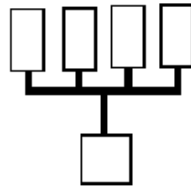

Figure 21. Recommend Layout of Memory Devices
- Use a Tee topology for the PCB layout of the trace to balance the delay between the i.MX to different memory devices. Figure 21 provides an illustration of this.